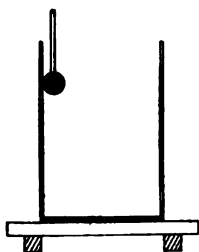

FIG. 201.—No charge is found inside a hollow vessel.
**224. Distribution of an Electric Charge upon a Conductor.**—We have applied the electron theory in explaining the phenomenon of electrostatic induction. Let us now use it in studying the distribution of an electric charge upon a conductor. Let a cylindrical metal vessel open at the top and insulated by being placed upon pieces of sealing wax have a charge of negative electricity given it. (See Fig. 201.) On now taking a proof plane and attempting to obtain a charge from the *interior* of the vessel no result is found, while a charge is readily obtained from the *outside* of the dish. This result is explained by considering that the electrons are mutually self-repellant